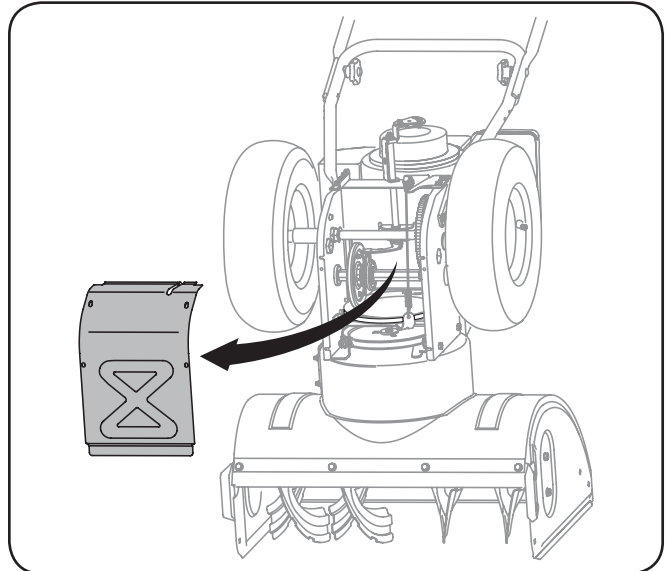

Figure 7-3
5. Remove the frame cover from the underside of the snow thrower by removing the self-tapping screws which secure it. See Fig. 7-3.
5. Remove the frame cover from the underside of the snow thrower by removing the self-tapping screws which secure it. Refer to Fig. 7-3.